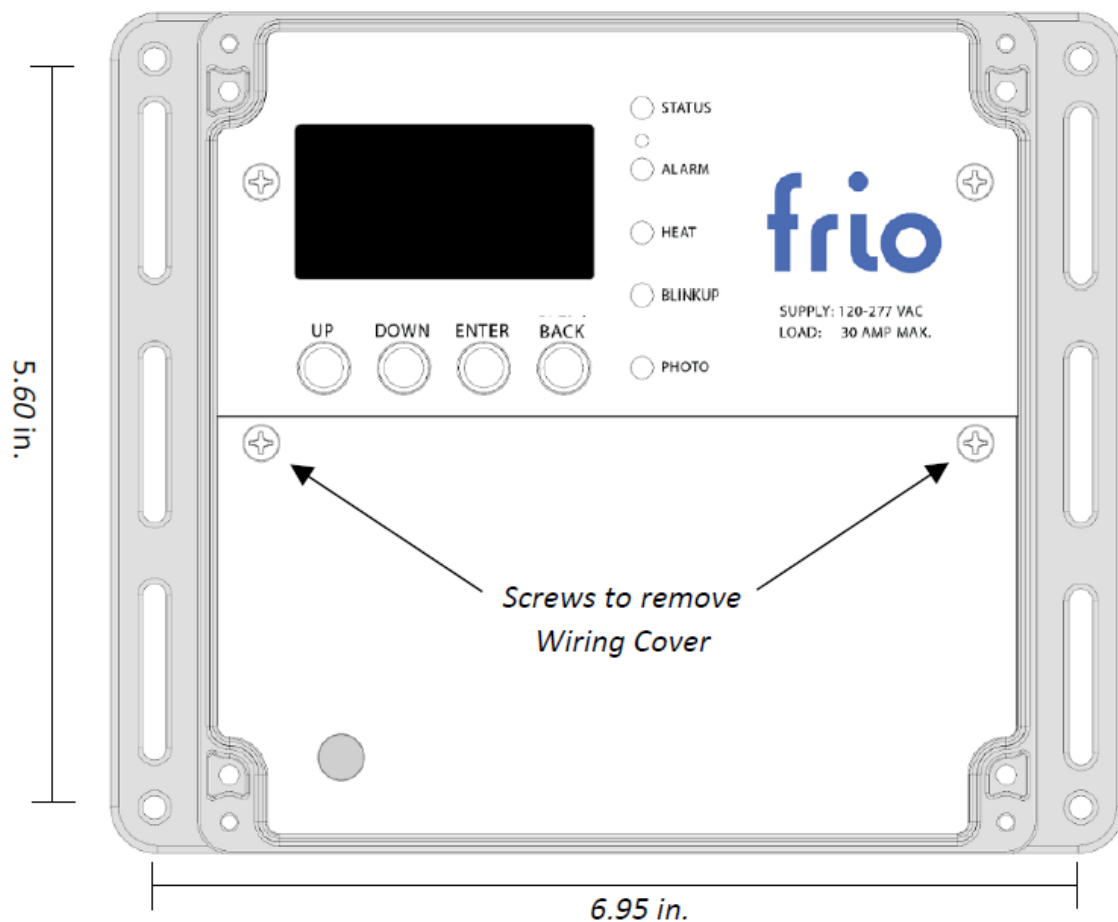

Figure 2: Top View of the Frio S1 controller showing mounting hole dimensions.
3. Mark hole locations on the vertical surface where you will mount the controller according to the dimensions shown in Figure 2. Ensure the mounting surface is flat, permanent, and the controller is protected from damage.